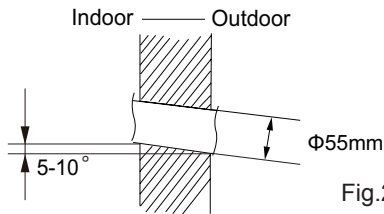

Fig.2
(2) Open a piping hole with the diameter of  $\Phi 55\text{mm}$  on the selected outlet pipe position. In order to drain smoothly, slant the piping hole on the wall slightly downward to the outdoor side with the gradient of  $5\text{-}10^\circ$ .(As show in Fig.2)